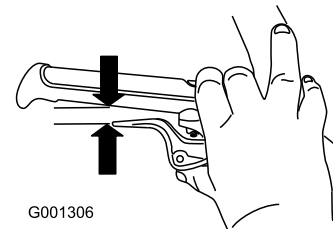

Figure 10
5. Squeeze the lever fully, then check the gap between the bottom of the handle and the wheel-clutch-lever end (Figure 10).